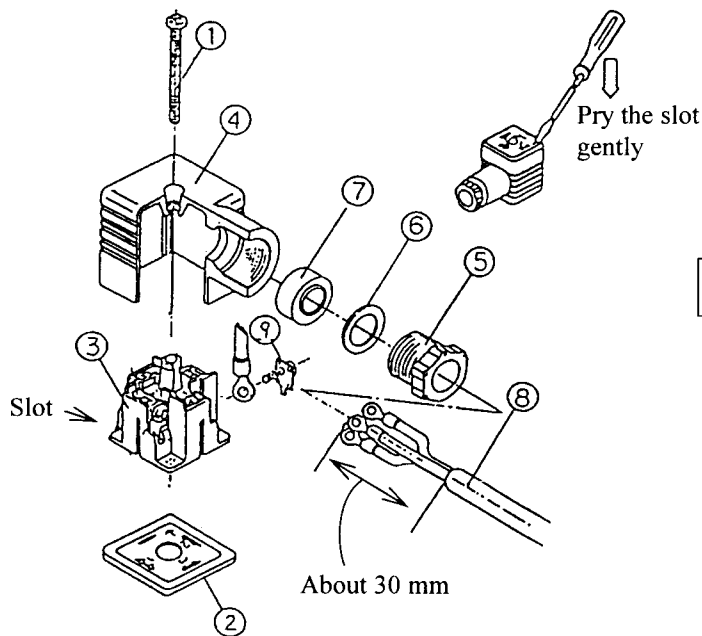

Figure 8 Plug-in Connector
#### 4.1.2 Disassembling (Refer to Figure 8)
### 4.1.3 Wiring (Refer to Figure 8)
- (3) Remove screw ⑨ with washer from terminal block ③, wire it as shown in Figure 8, then reapply and tighten screw ⑨ with washer.
### 4.1.4 Assembling (Refer to Figure 8)